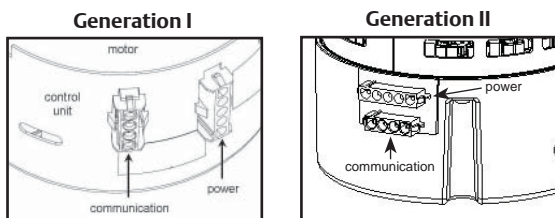
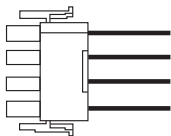

Figure 1
Figure 2
2. Disconnect the four wire communication cable from the control unit connector [Figure 1].
3. Connect the four wire connector of the Ultracheck-EZ diagnostic tool [Figure 2] to the control unit communication connector [Figure 1].
11. Reconnect the four wire communication connector to the control unit connector [Figure 1, page 7].
4. Disconnect power cord from connector on control unit. Inspect power cord for bent, damaged, or recessed wires and terminals [Figure 1, page 7].
5. Disconnect four wire communication cable from connector on control unit. Inspect cable for bent, damaged, or recessed wires and terminals [Figure 1, page 7].